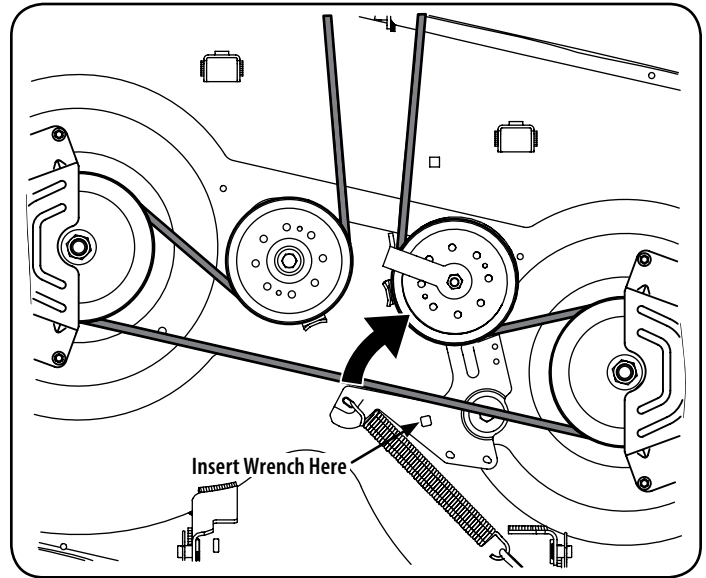

Figure 25
- c. Working on the right side of the tractor, insert a $\frac{3}{8}$ " drive ratchet wrench, set to tighten, into square hole found on the idler bracket. See Figure 25.